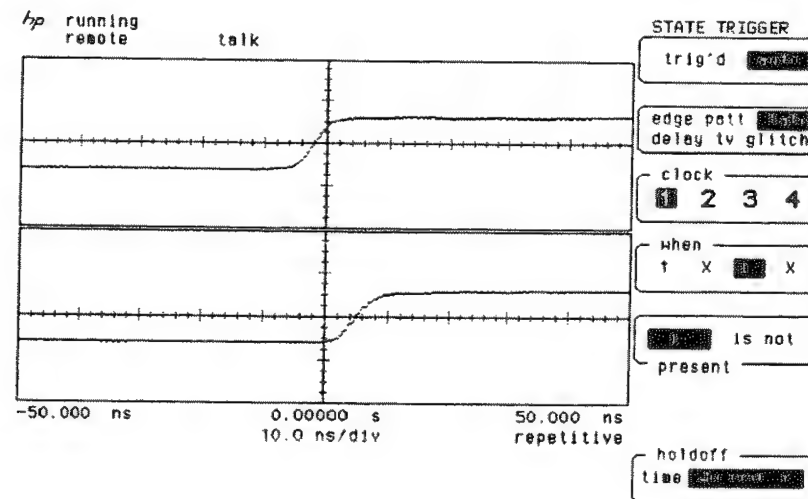

Figure 6-11. Channel 1 Clock XLX State
- Press the when key until **present** is selected (see Figure 6-11).